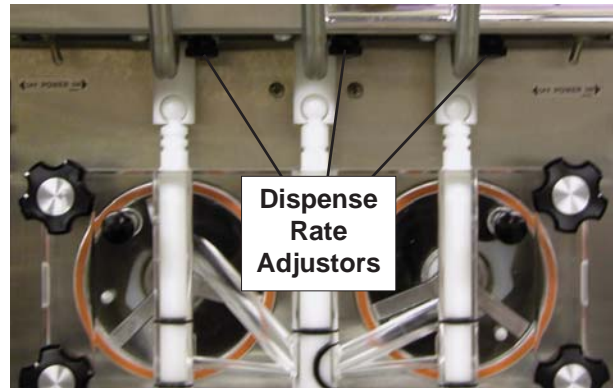

Figure 3-14 Dispensing Product
12. The machine dispenses product at a reasonable draw rate. If the machine is overdrawn, the result is a soft product or a product that will not dispense at all. If this occurs, allow the machine to run for approximately 30 seconds before dispensing more product. Spigot rate adjustors are located under the header panel, to the immediate right of each spigot handle (Fig. 3-14). Turning the spigot rate adjuster counterclockwise will decrease the dispense rate.